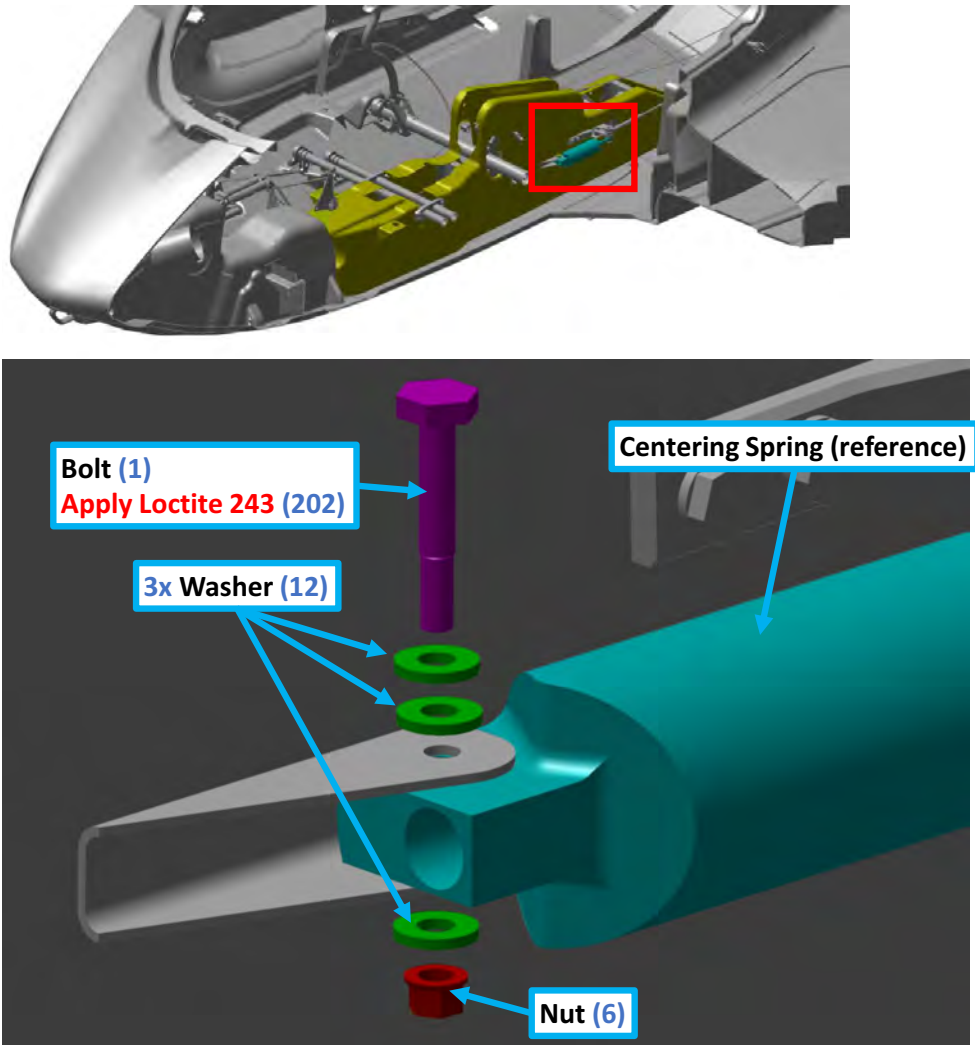

FIGURE 9-59
14. Install the forward end of centering spring onto the LH side of the keel using LOCTITE® 243™ and the noted hardware. Torque hardware to 10-13 in-lbs. See Figure 9-59.